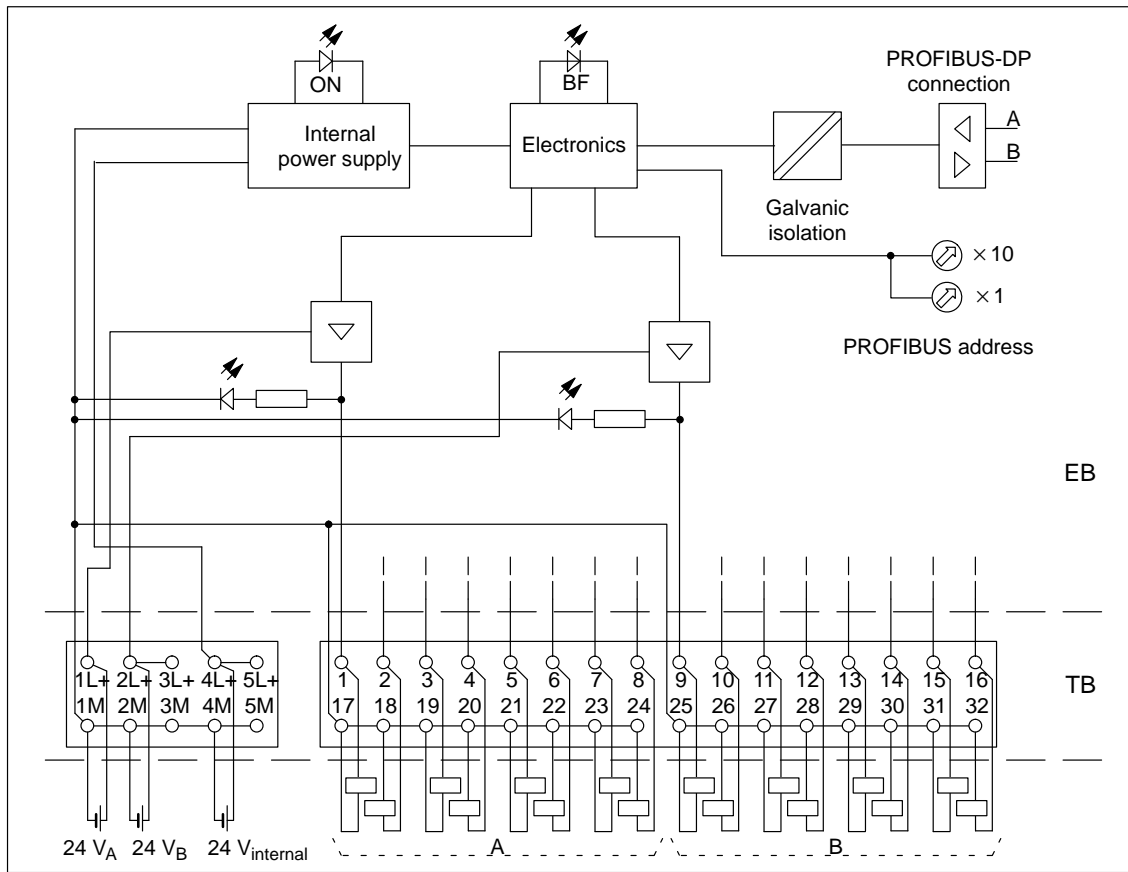

Figure 8-4 Block diagram of the L 16 DO DC 24 V/0.5 A Electronics Block
**Block Diagram** Figure 8-4 shows the block diagram.